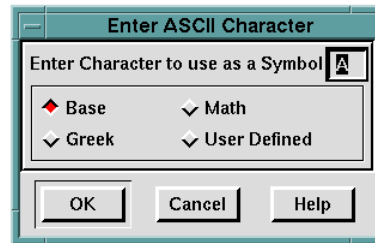

Figure 13-4. The Enter ASCII Character dialog.
4. Click on the desired symbol shape. If you click on Other, the Enter ASCII Character dialog appears, as shown in Figure 13-4.